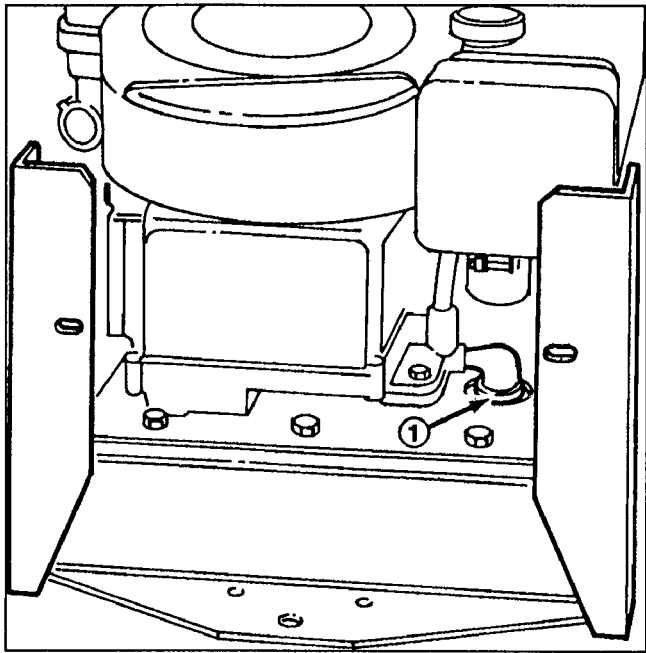

Figure 17
- B. Turn engine off and place drain pan below drain plug (Fig. 17). Remove drain plug and allow all oil to flow into drain pan. Reinstall drain plug after oil stops flowing.